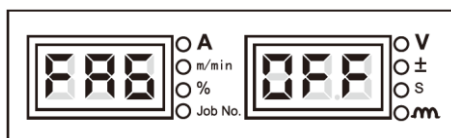

Figure 3-36 Screen for FA6 display
1. Enter the internal menu, adjust the knob on the panel of welding power source to **FA6**, the digital tubes will display as shown in Figure 3-36.